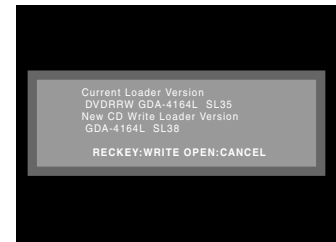

Fig. 3-4-9
- 2) Press the REC button on this HDD/DVD recorder three times: The data on disc will be read, the Firmware Update screen will appear, and the loader firmware version along with the version of loader firmware on the disc, will appear on the screen (Fig. 3-4-9). When reading the data on disc is complete, the disc tray will open automatically: Remove the disc.